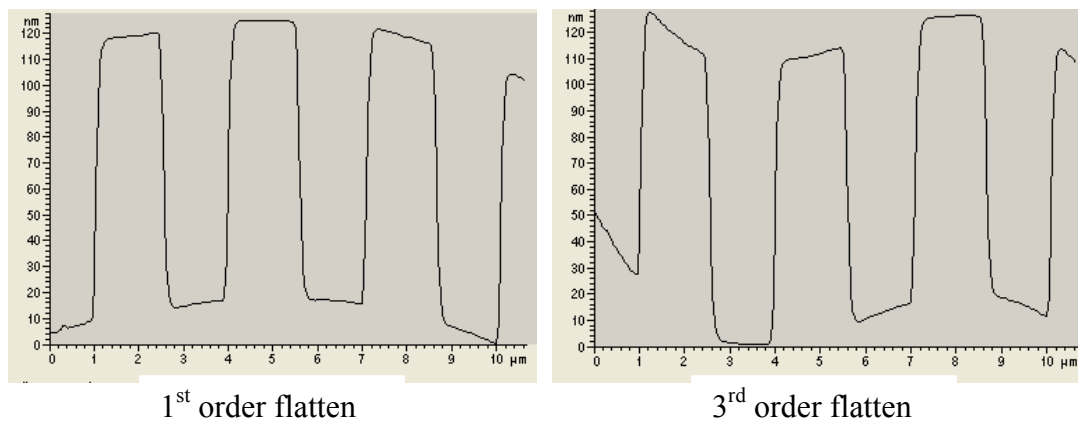

Fig. 5.4 Cross-section images showing the artifact introduced due to incorrect order of flattening
- When flattening data the order selected may also introduce artifacts into the image, based on the order of the fitting that is done to the data. This can be seen in Fig. 5.4 showing the cross section image below.